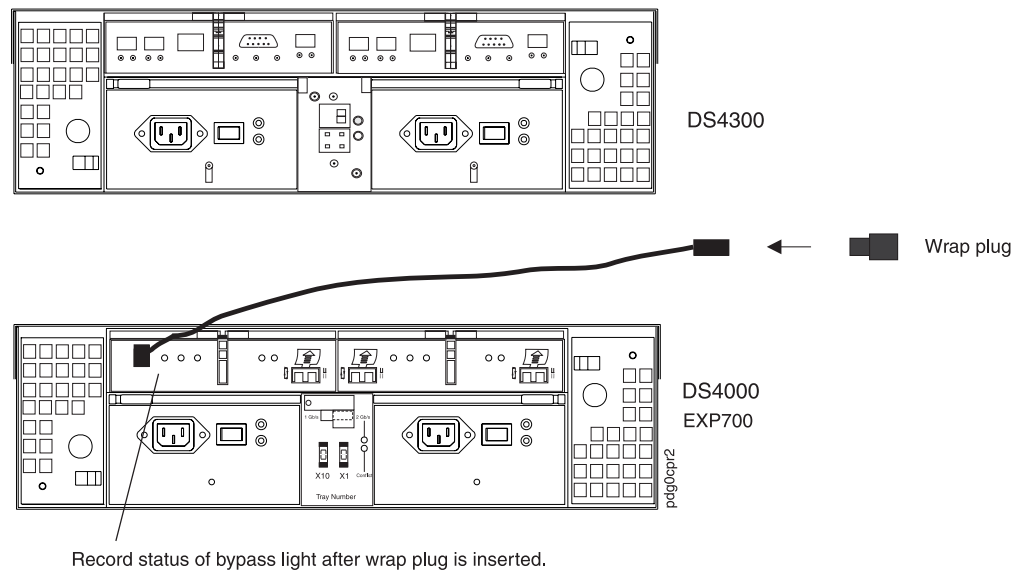

Figure 75. Inserting a wrap plug onto a copper cable
- Insert the FC copper cable wrap plug into the unplugged cable end. See Figure 75. Record the state of the port bypass light on the end where the FC copper cable is still inserted.